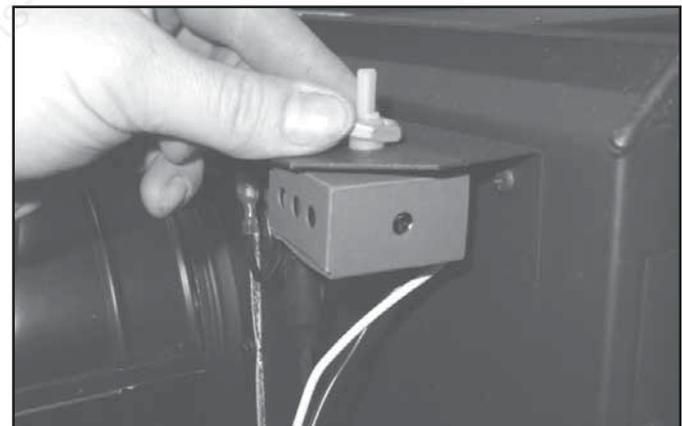

Figure 12
5. Install the speed control to the switch panel. See Figure 12.